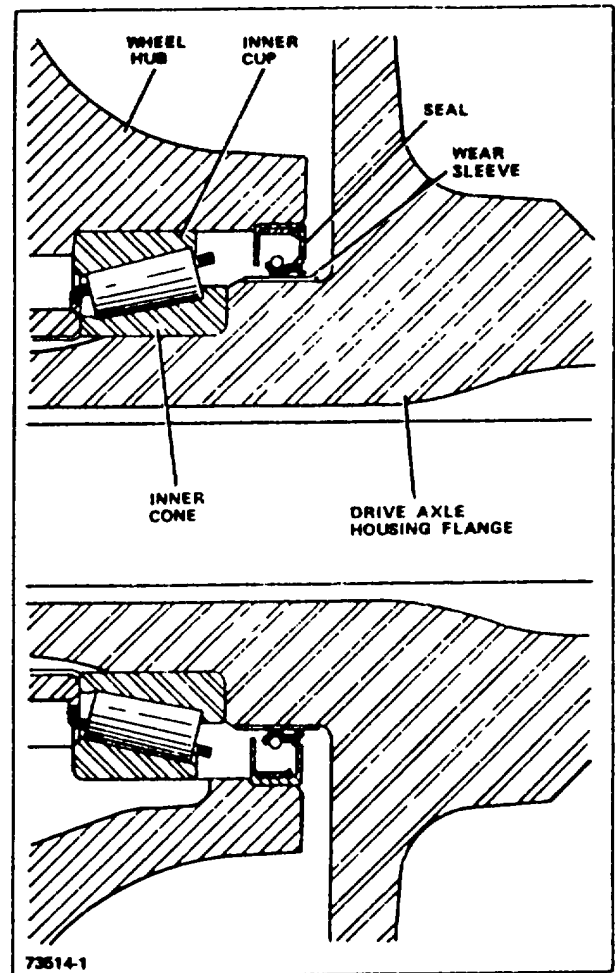

Figure 2-2. Oil Seal Installation
- (1) On support plate where shoe rim rests (6 places).
- (2) On end of each shoe web where web contacts cylinder piston insert.
- (3) On shoe web surface at point where web contacts the hold down cup.
- (4) On adjusting screw threads and at socket end of adjusting screw assembly.
- (5) On the toggle lever pivot pin where pin contacts toggle lever.
- c. Install the shaft seal (Fig 2-2) on the axle wear sleeve with the exposed, protruding lip on I.D. of seal facing toward differential housing.